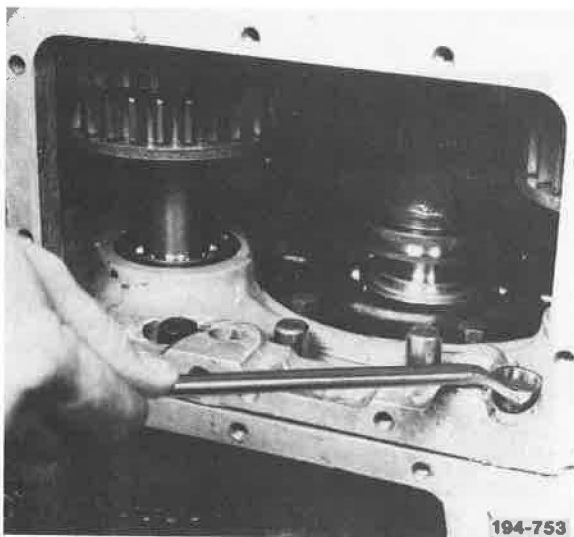

Figure 26. Removing Capscrews
25. Remove the two front compound case to main case capscrews, located inside the front compound case. See Figure 26.